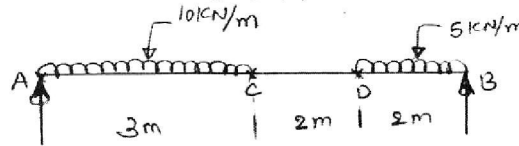

Fig.Q5(c)
c. Draw the SF and BM diagrams of a simply supported beam of length 7 mt carrying uniformly distributed loads as shown in Fig.Q5(c). (10 Marks)